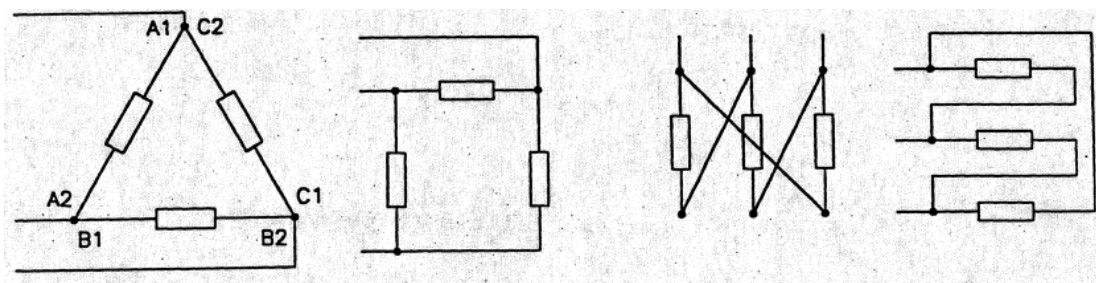

Figure 8 - Methods of drawing a delta connection
- 25 In the three phase delta connection the finish of each coil group or heating element is connected to the start of the next. There are several ways of drawing a delta connection as shown in Figure 8.